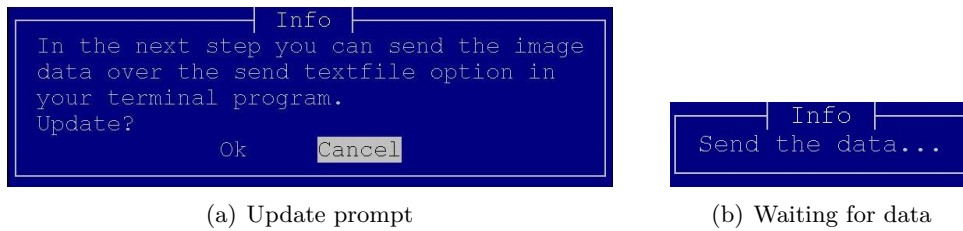

Figure 15: BIOS: Update
**Update procedure via serial connection** In the dialog shown in Figure 15(a) choose “Ok”. “Send the data...” prompt appears (see Figure 15(b)). Select the appropriate \*.b64 file and send it via the “Send Text File” functionality of your terminal software.